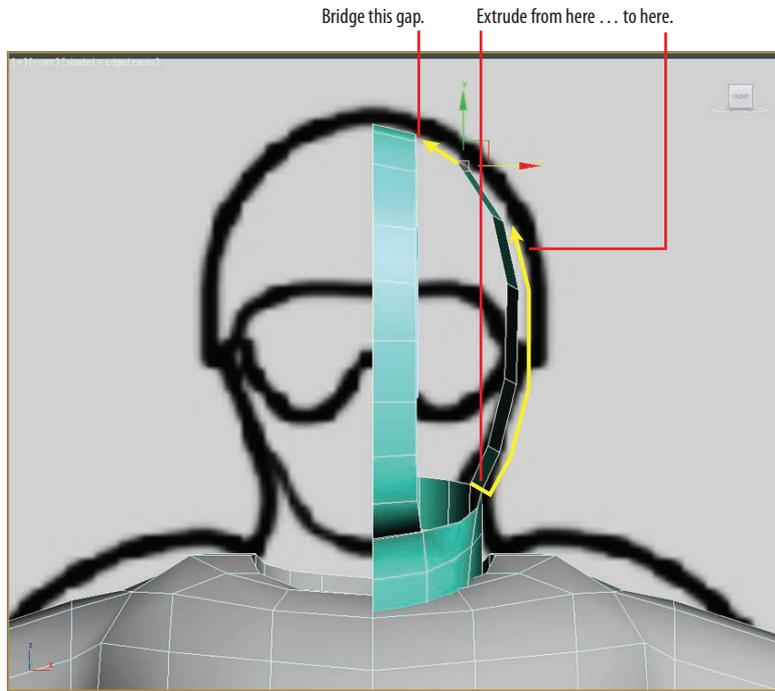

FIGURE 9.5 Creating polygons for the side of the head
4. In Edge mode, use Bridge (Graphite Modeling Tools tab > Edges > Bridge). You will use the Bridge tool with the default settings, which will create a single segment between the two selected edges. This will fill the gap between the side of the head and the nearest edge on the top of the head, as shown in Figure 9.5.